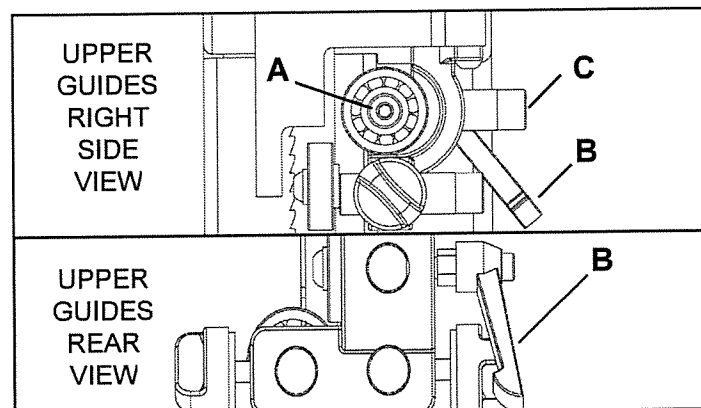

FIGURE 18
4. Adjust the rear bearing guide (FIG. 18, A) to be just clear of the back of the saw blade. Release the guide's Clamp Handle (#25E, FIG. 18, B) and move the rear guide towards the blade by pushing the end of the Rear Guide Shaft (#24E, FIG. 18, C). Tighten the handle when done.